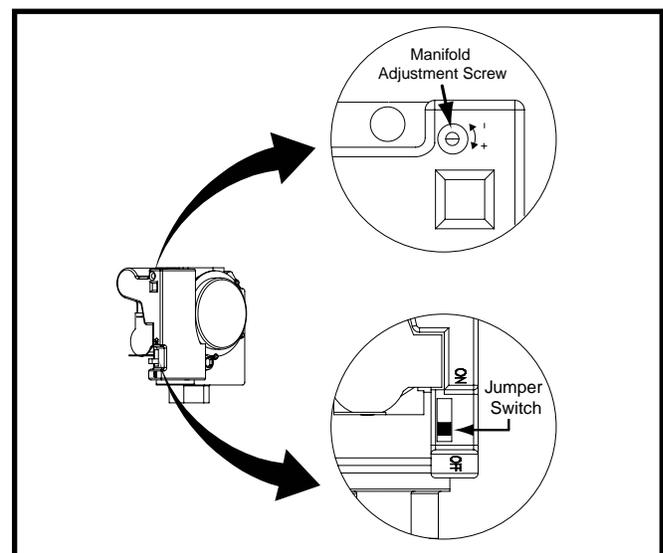

Figure 21. Modulating Gas Valve
- b.) Using a small screw driver, turn the adjusting screw (Figure 21) on the regulator to adjust the full input setting.